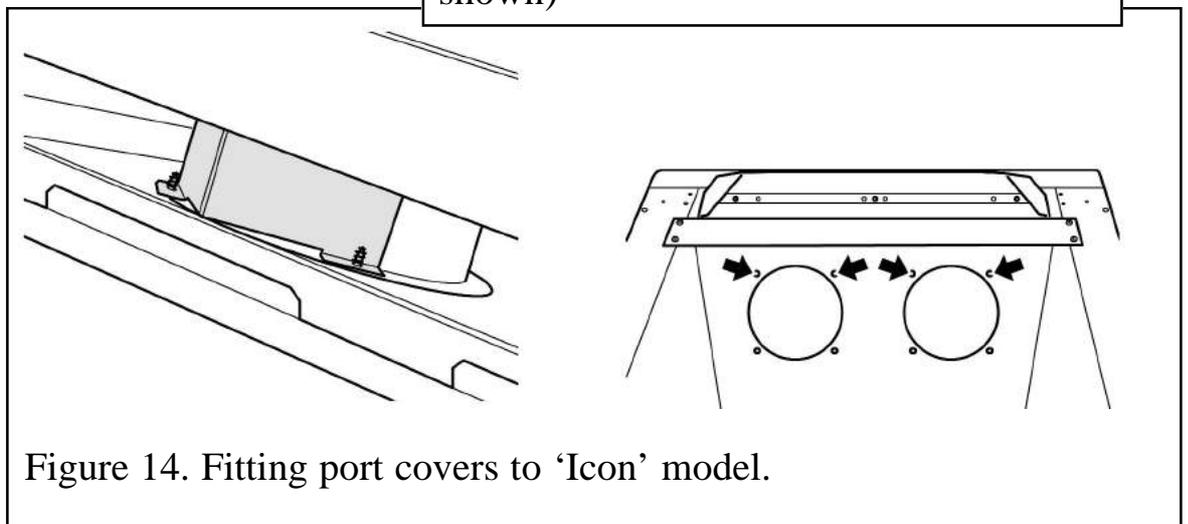

Figure 14. Fitting port covers to ‘Icon’ model.
7. The ‘Icon’ fascia is supplied with two port covers. To fit the port covers unscrew the four cross over port screws shown in figure 14. Put the port covers in place and refit the screws previously removed. *Ensure that the screws are tight and that the cross over ports have*
returned to their original position. Also check that there are no gaps between the cross over ports and the surfaces they are screwed to (See figure 14).